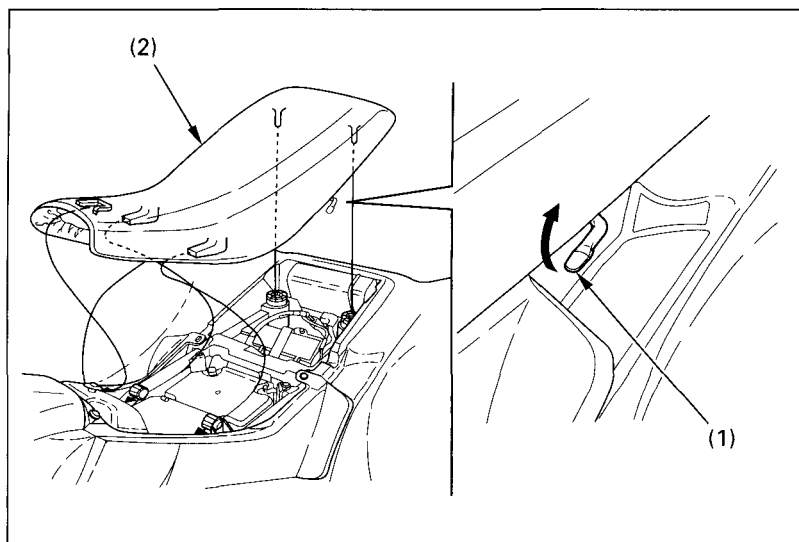

Fig. 4-30 (1) Seat lock lever
To remove the seat (Fig. 4-30), pull up the seat lock lever (1) at the left side of the seat and lift it up.